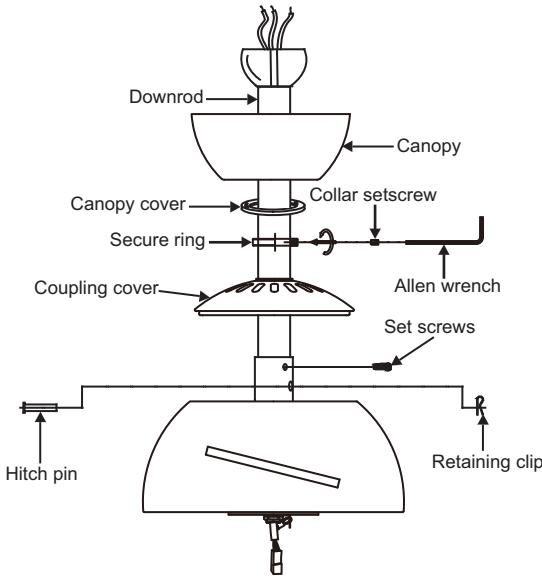

Fig. 9
Step 8. Slip the coupling cover, secure ring , canopy cover and canopy onto the downrod. (Fig. 9)
Slide the secure ring, and fasten using the collar setscrew and Allen wrench provided. (Fig. 9)
Thread the hanger ball onto the downrod, insert the cross pin through the downrod and tighten. Now tighten the set screw. (Fig. 9)